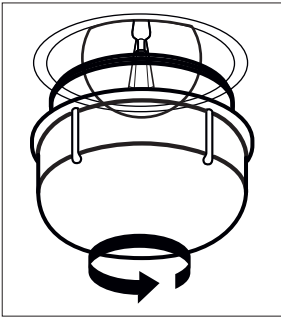

Figure 23
2. Remove the glass protection by turning it counterclockwise. (See Fig. 23) Using plastic gloves may help you if you have difficulty in rotating it.